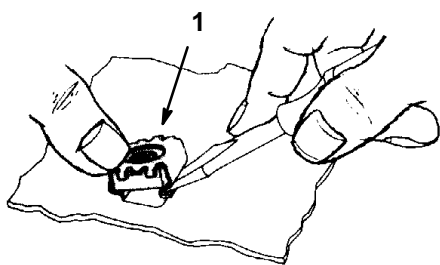

Figure 1
2. On the top surface of the deck, install one retaining leg into the the square opening of the deck (Fig. 1).
3. Push a screw driver into the other leg and insert retaining nut into square hole (Fig. 1).